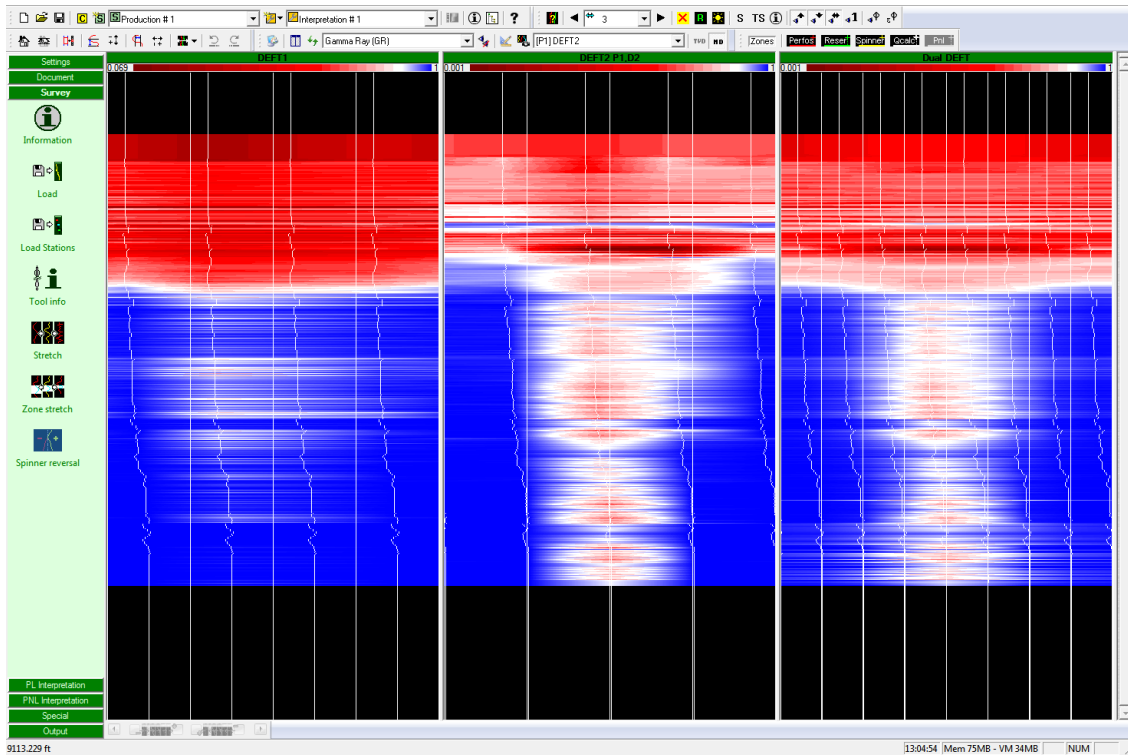

Fig. B05.21 • Image views for pass down2: DEFT1, DEFT2, and Dual DEFT
- When this is done, create a composite image view for pass Down 2 using the new tool definition, Fig B05.21.
- Set the display to show DEFT1, DEFT2 and Dual DEFT image views, Fig. B05.21.